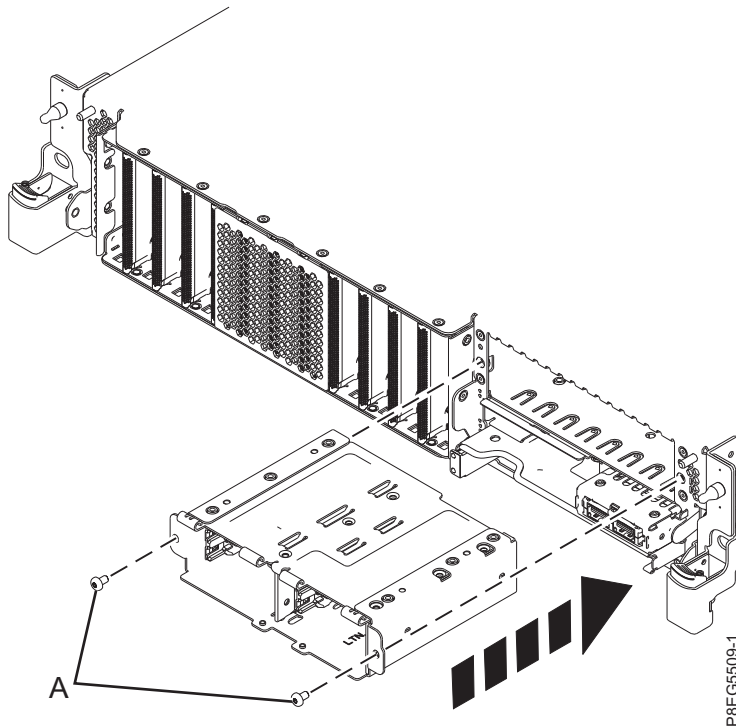

Figure 148. Reinstall SSD cage
3. Slide the SSD cage back into position. Install and tighten screws (A). See Figure 148.